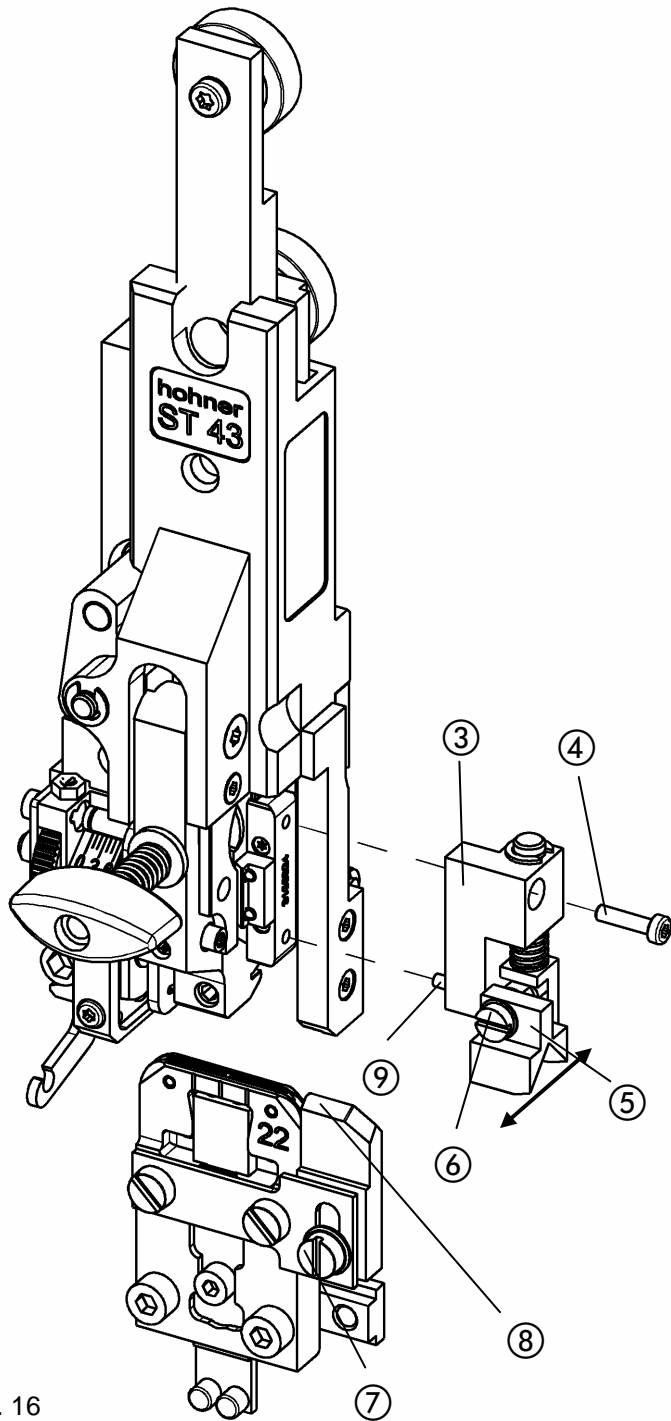

Fig. 16
- Fig. 16 -
- In order to install the holding down device ③, insert the guide pin ⑨ into the borehole on the bender and tighten the fastening screw ④.